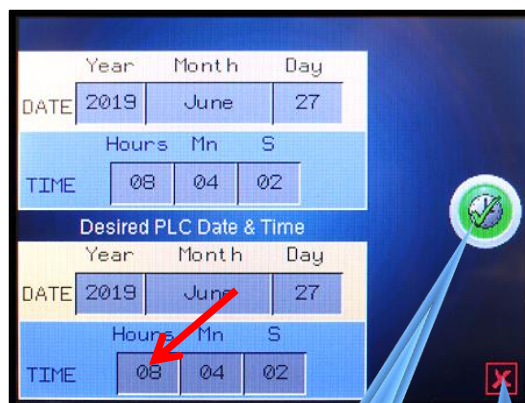
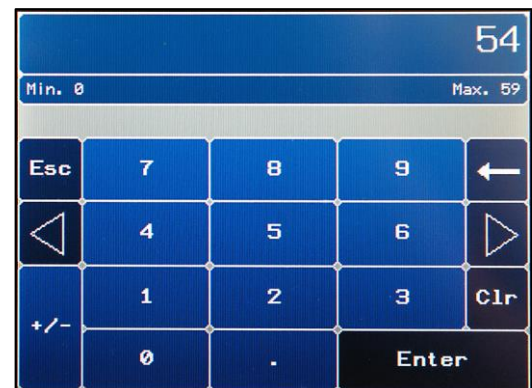

Figure 74
Figure 75
7. Press inside the **Hours** box, Fig. 74 to adjust the hour, and a numeric keypad opens Fig. 75. Type in the desired hours — using military time — and then press the **Enter** button.